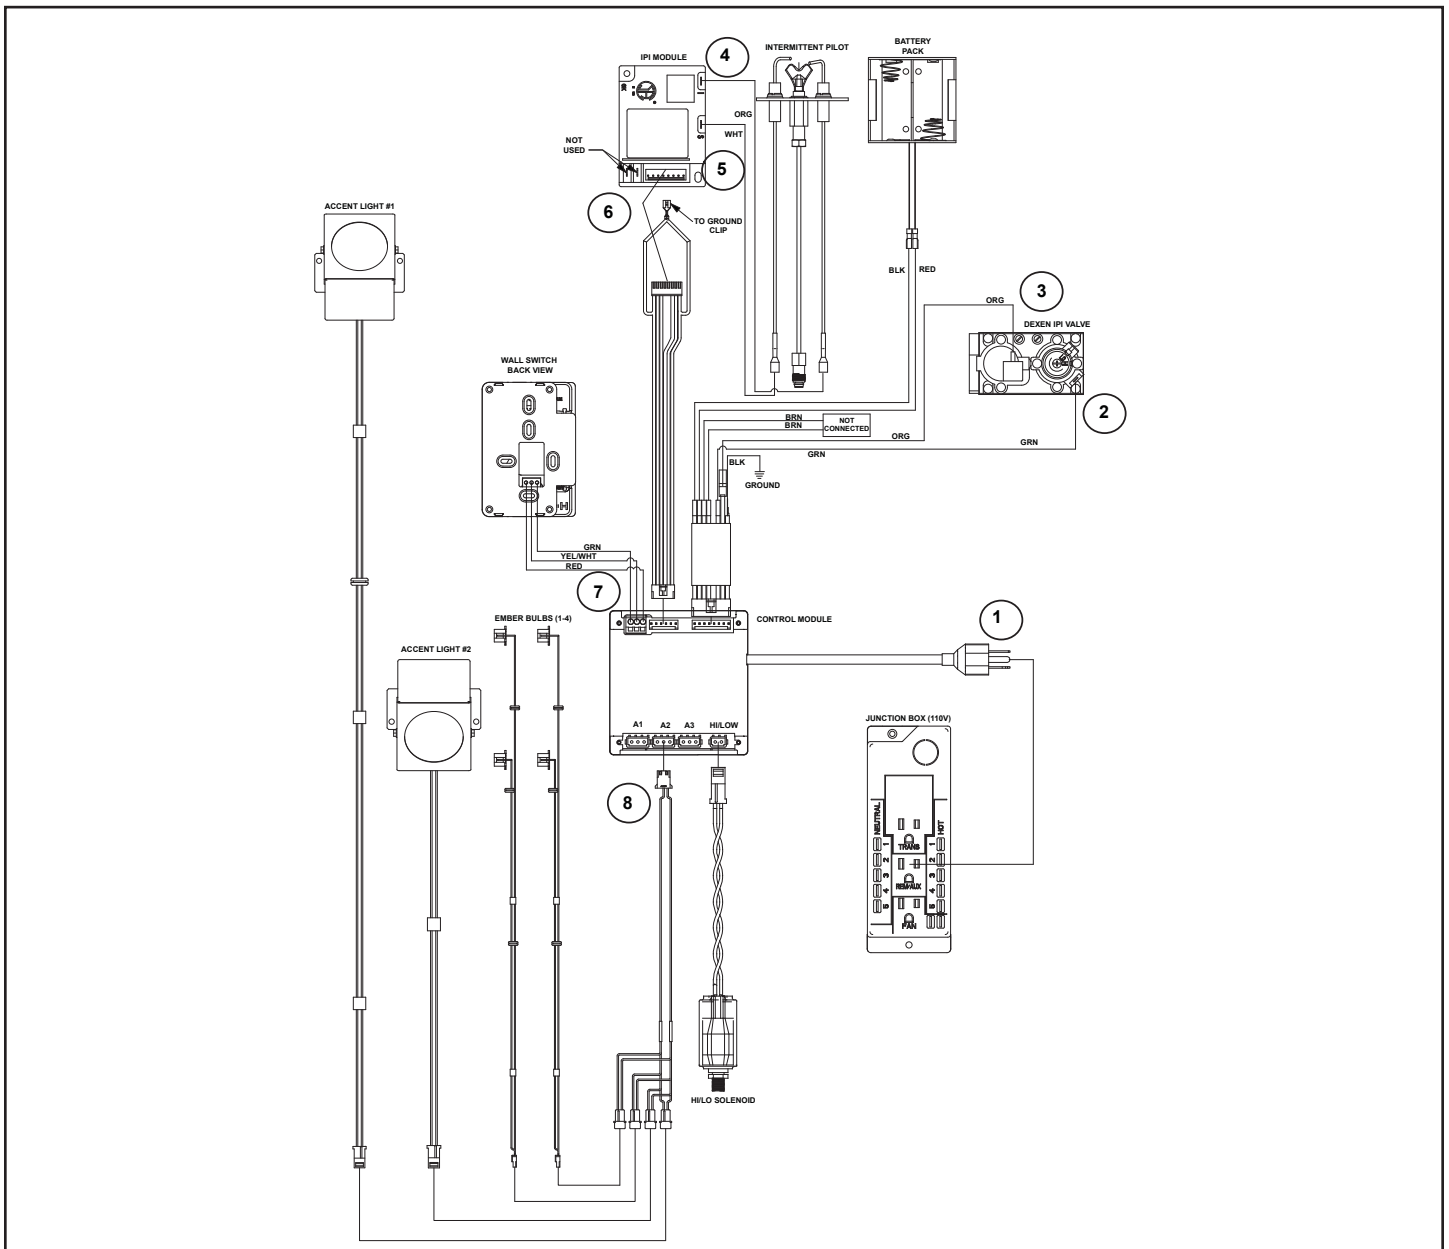

Figure 2. Disconnect Components
4. Refer to Figure 2 and disconnect the components in this order: